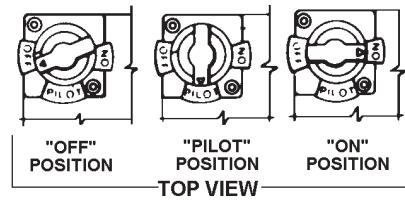

FIGURE 1.
4. Carefully plan the place where you are going to put the water heater. Correct combustion, vent action, and vent pipe installation are very important in preventing death from possible carbon monoxide poisoning and fires, see Figures 1 and 2.
Should you choose to apply an insulation blanket to this heater, you should follow these instructions (For identification of components mentioned below, see Figure 1). Failure to follow these instructions can restrict the air flow required for proper combustion, potentially resulting in fire, asphyxiation, serious personal injury or death.